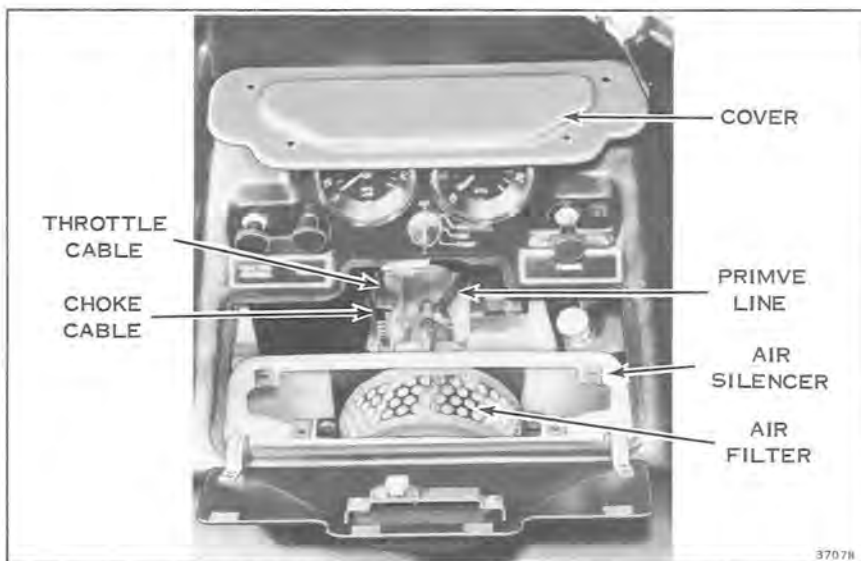

Figure 6-2
- b. Remove air silencer cover and filter element. See Figure 6-2.